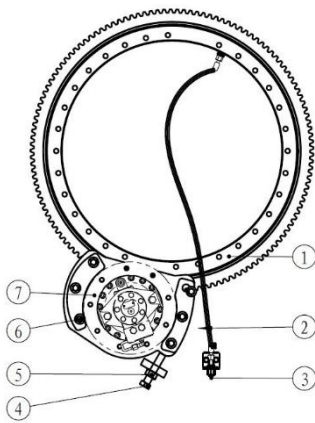

Figure 1-2 Slewing mechanism
- As shown in Fig. 1-2, find the grease filler 3 next to the slewing reducer, connect the greaser, and rotate the rotary table several times while filling grease until the grease overflows from the upper and lower fixing surfaces of the slewing bearing. Grease grade: lithium base grease 2#.